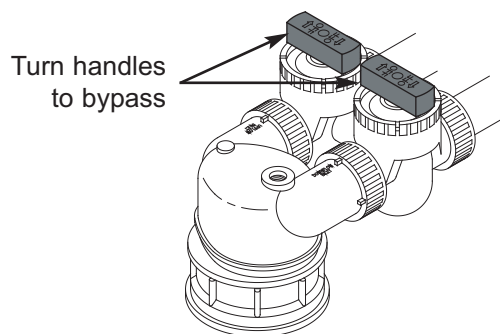

FIG. 8
1. Bypass the system by turning both bypass handles perpendicular to the flow of water (See Fig. 8).